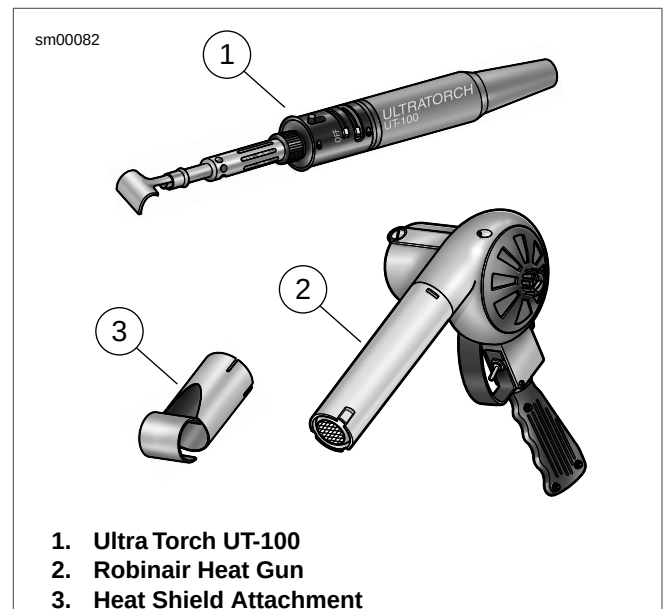

Figure 6-139. Radiant Heating Devices
- See Figure 6-139. Using the ULTRA TORCH UT-100 (Part No. HD-39969) or ROBINAIR HEAT GUN (Part No. HD-25070) with HEAT SHIELD ATTACHMENT (Part No. HD-41183) or other suitable radiant heating device, uniformly heat the heat-shrink tubing to insulate and seal the soldered connections. Apply heat just until the meltable sealant exudes out both ends of tubing and it assumes a smooth cylindrical appearance.